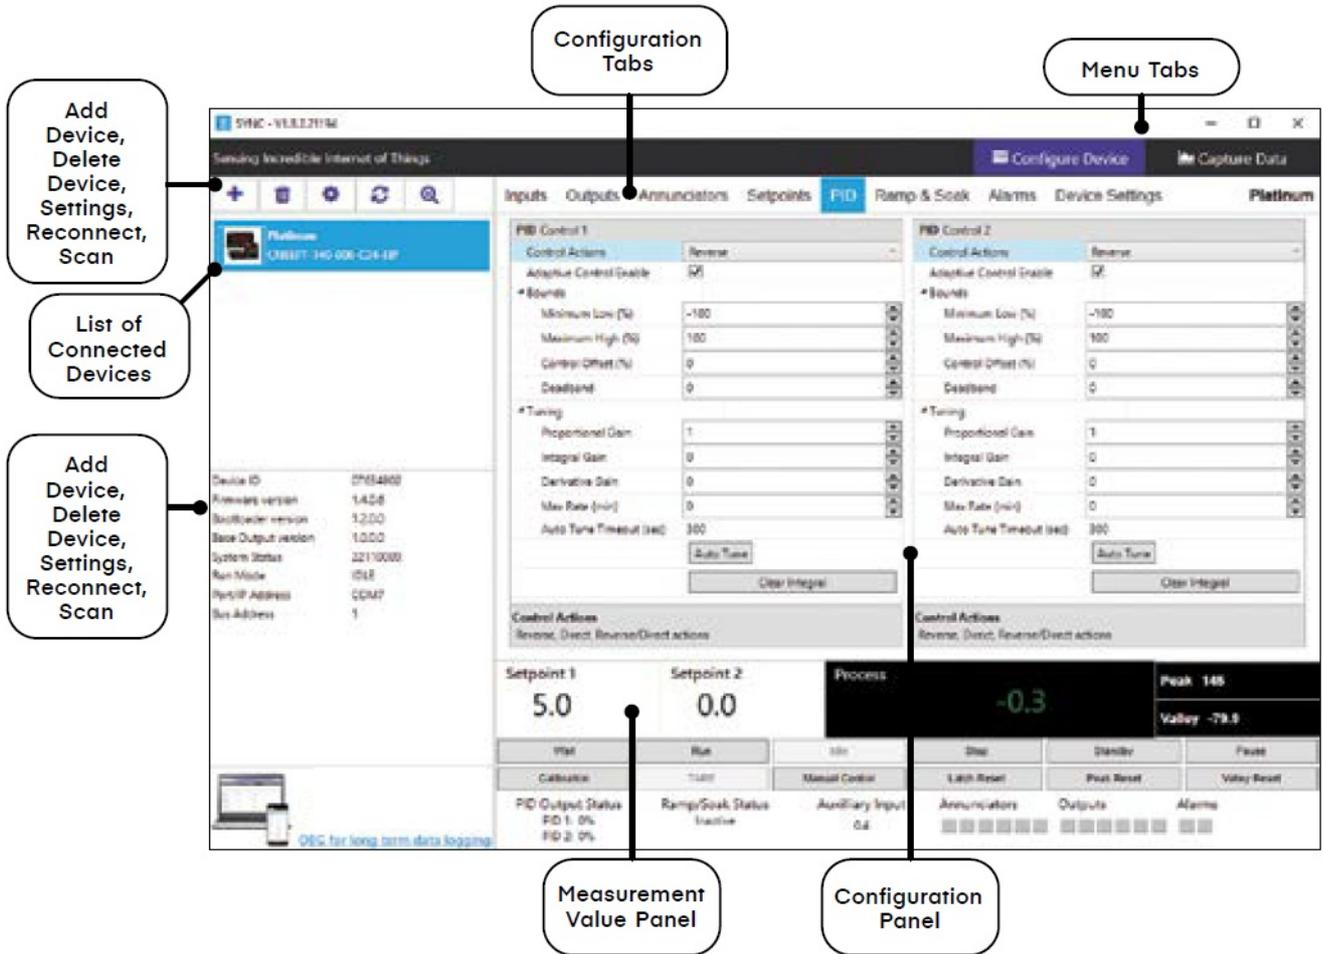

Figure 3: SYNC UI Overview
The blank Configure Device interface is the first view you see after SYNC is launched. Once a device is connected, you will see an interface like the one displayed in Figure 3.
**Note:** The Configure Device menu tab interface may look differently than the one displayed in Figure 3 depending on the product that is connected.
Clicking the Add Device icon **+** (Figure 3) will lead to a wizard that guides you through the process of adding a device to SYNC. Ensure SYNC is running on a Windows OS computer before continuing. Connect the device to a computer and select the appropriate communication interfaces.
Please refer to your device User's Manual for other communication interface setting options if default settings are not applicable. The device can be deleted by clicking the Delete icon  (Figure 3).
The Device Attributes list will appear when you click on a device from the Device List section (Figure 3).